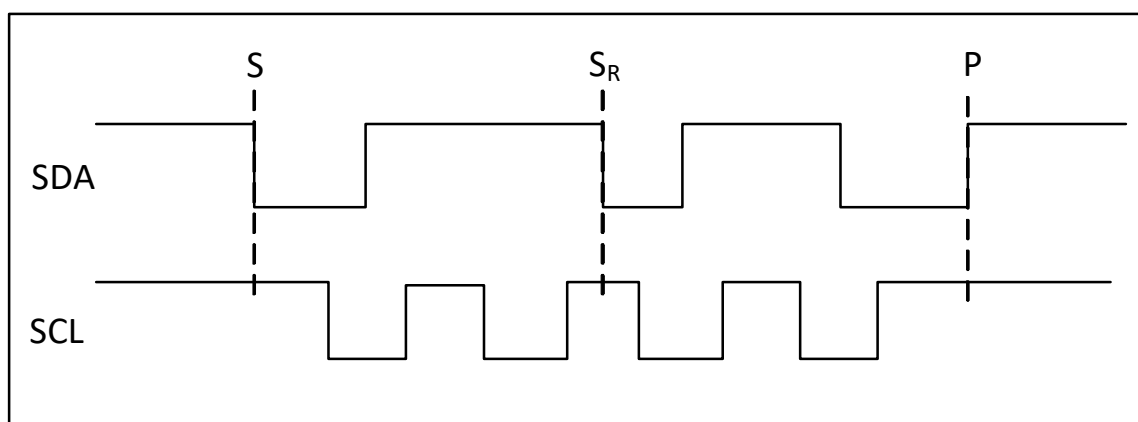
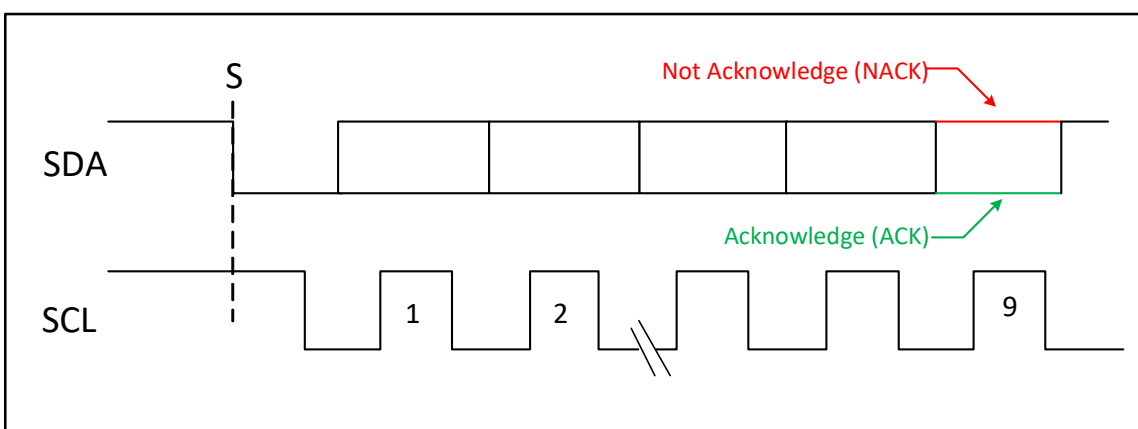

Figure 8. Start and Stop Conditions
Figure 9. Acknowledge Cycle
The I²C/SMBus serial port is a two-wire serial bus where data line SDA is bidirectional and clock line SCL is unidirectional. Reads and writes to this interface by the master are byte-oriented, with the I²C/SMBus master controlling the serial data rates up to 240 kbps. The SDA and SCL lines must be pulled high through pull-up resistors of 5 k Ω or less. An Si8901 ADC read transaction begins with a START condition ("S" or Repeated START condition "S_R"), which is defined as a high-to-low transition on SDA while SCL is high (Figure 8). The master terminates a transmission with a STOP condition (P), defined as a low-to-high transition on SDA while SCL is high. The data on SDA must remain stable during the high period of the SCL clock pulse because such changes in either line will be interpreted as a control command (e.g., S, P, S_R). SDA and SCL idle in the high state when the bus is not busy. Acknowledge bits (Figure 9) provide detection of successful data transfers, whereas unsuccessful transfers conclude with a not-acknowledge bit (NACK). Both the master and the Si8901 generate ACK and NACK bits. An ACK bit is generated when the receiving device pulls SDA low before the rising edge of the acknowledged related (ninth) SCL pulse and maintains it low during the high period of the clock pulse. A NACK bit is generated when the receiver allows SDA to be pulled high before the rising edge of the acknowledged related SCL pulse and maintains it high during the high period of the clock pulse. An unsuccessful data transfer occurs if a receiving device is busy or if a system fault has occurred. In the event of an unsuccessful data transfer, the bus master attempts communication at a later time. Figure 10A shows the I²C Slave Address Byte and CNFG_0 byte for the Si8901. Figure 10B and Figure 10C show master/Si8901 ADC read transactions for Demand Mode and Burst Mode, respectively.